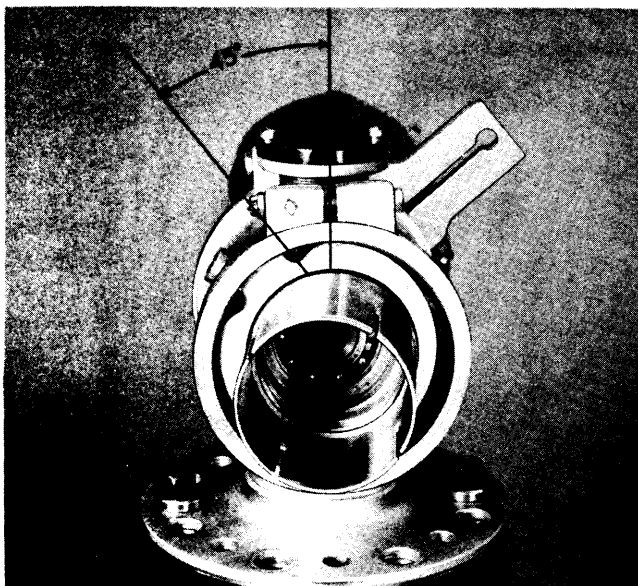

Figure 22. Position of Snap Ring Ends
(1) Push both flange assemblies toward center of hub as far as possible. Then place retainer snap ring in the hub groove by means of the special snap ring pliers No. 7. Place the snap ring opening at a 45° angle left of the upper center of the hub when facing the flange. This is the point of lowest stress on the retainer plate. (See Fig. 22.)
(2) Insert the preloading tool through flange No. 1, engaging the sleeve and preload screw. Turn the outer tool to the right until all play of the flange is taken out. Hold inner tool until a slight drag is felt when flanges are rotated, then back off about 1/8 of a turn or until the flanges feel free. If in doubt, before applying seal plate in flange, screw in a blade and test for excessive shake of flange in hub.